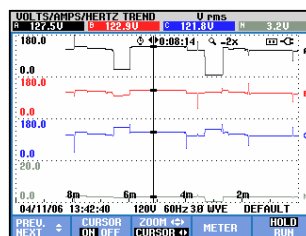

Figure 19-5. Trend display, cursor on
- Operate F2 to switch the Cursor on. Use the left/right arrow keys to move the Cursor horizontally along the trends. The value of the trends at the Cursor is displayed in the screen header as shown in Figure 19.5. Observe that the screen update stops now (recording of data continues!). Trend can record a maximum of six screens of which one is displayed at a time. Positioning the Cursor across the left or right screen end brings the next screen within the viewing area.